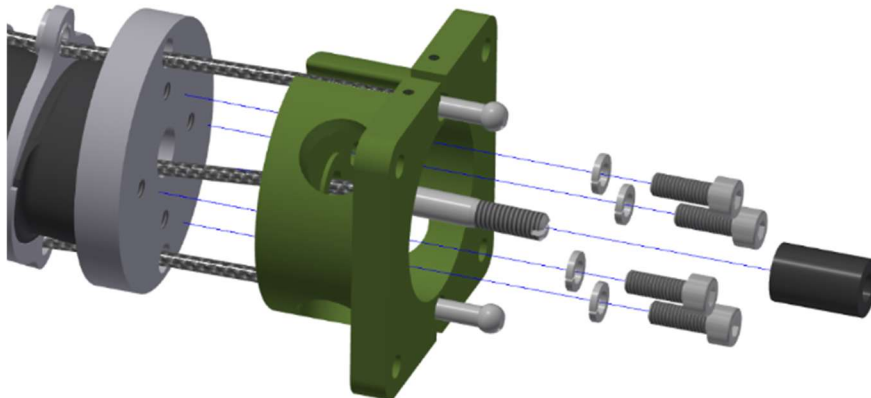

Figure 4-23. Remove the lower neck load cell by removing four M5 X 0.8 X 14 LG. SHCS with washers
4.2.13 Remove the lower neck load cell by removing four M5 X 0.8 X 14 LG. SHCS with washers (Figure 4-23). The compression bushing (474-2331) will come out when the lower neck load cell is removed.